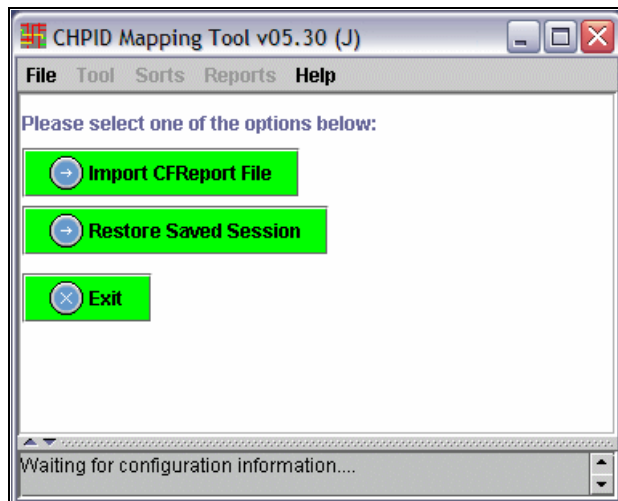

Figure 6-15 CMT - Import CFReport file
2. Import the CFReport file into the CHPID Mapping Tool by clicking **File → Import CFReport file** (Figure 6-15 on page 276).